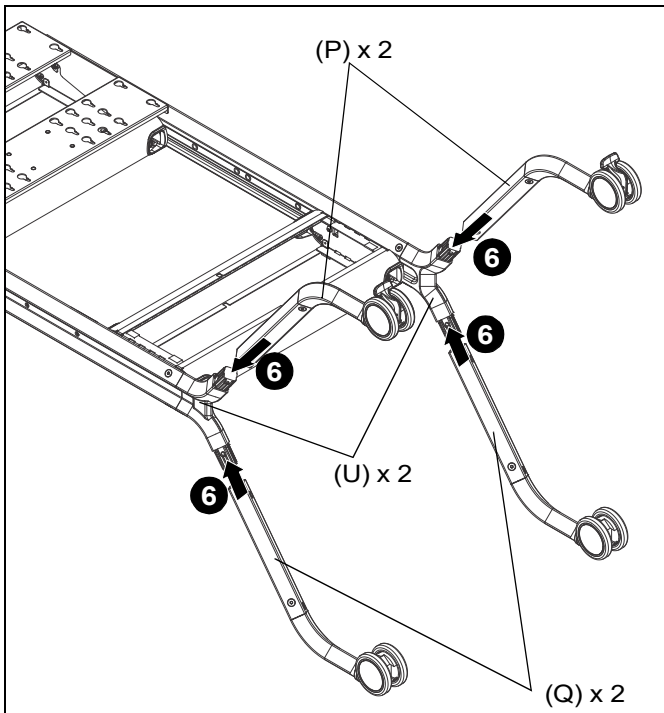

Figure 4
6. Install four legs (P and Q) onto two coupler assemblies (U). (See Figure 4)